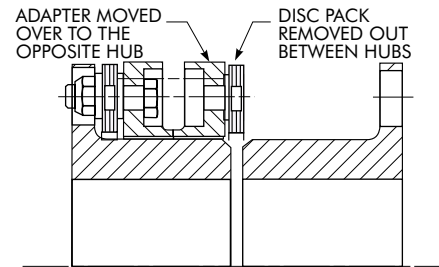

Figure 5
- C. Slide the adapter axially out of the way letting it rest on the other end hub. See Figure 5.
- D. The disc pack is now free to be removed through the axial gap between the two hubs (“C” dimension spacing), see Figure 5. If there is not enough room between the hubs for the total disc pack, the disc pack may be taken out and replaced one single disc laminate at a time provided the orientation is maintained on reassembly.